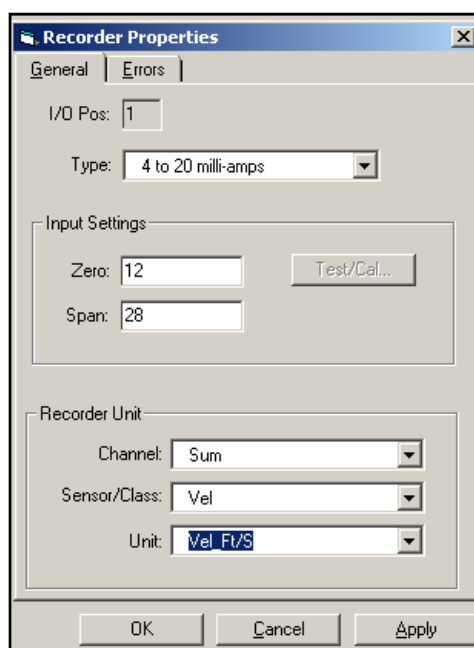

Figure 48: Recorder Properties
4. Double-click on **Recorder 1** or **Recorder 2** to bring up the Analog Output properties window. Under the **General** tab, select the desired option from the **Type** drop-down menu (see Figure 48 on page 61).
5. Set the **Zero** and the **Span** to the desired values. In the **Recorder Unit** section, select the desired output for **Channel**, **Sensor/Class** and **Unit**. Click on **Apply**. The window should look similar to *Figure 48* below.